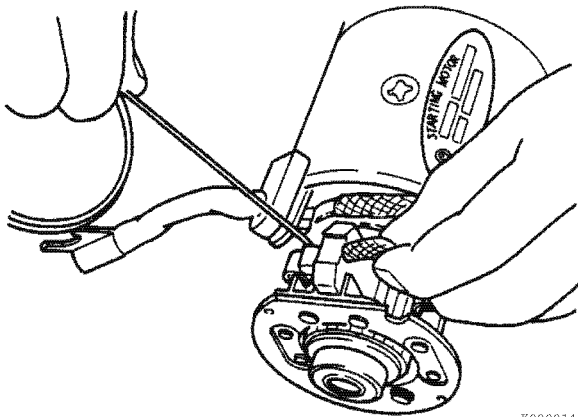

Figure 10-6
- Pull the brush springs up using a brush spring puller. On the negative (-) side, bring the brush spring into contact with the side of the brushes to hold the brushes clear of the commutator surface. On the positive (+) side, remove the brushes from the brush holder assembly (Figure 10-6).